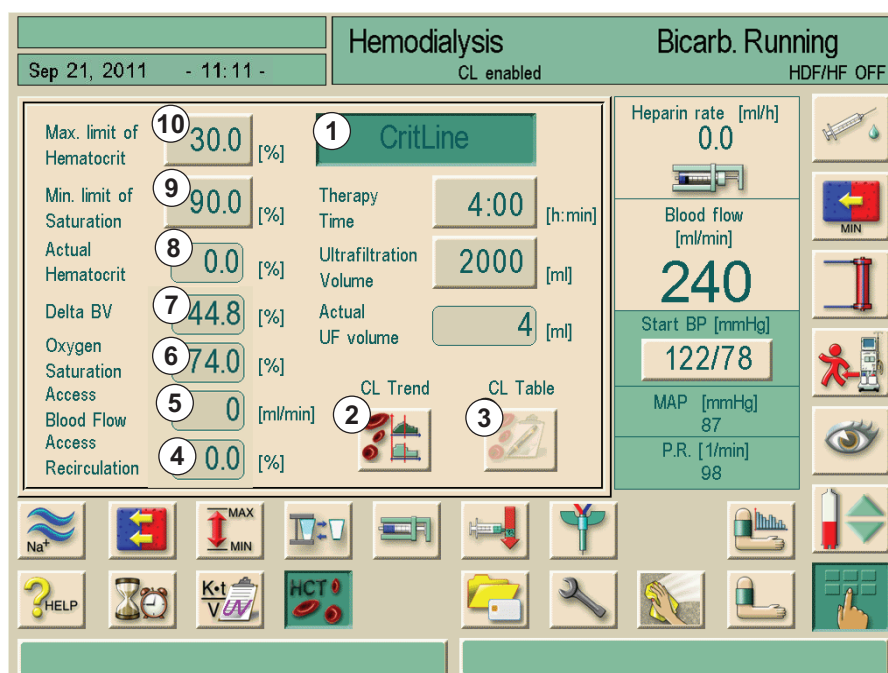

Fig. 11-33 Crit-Line Main Window
When button 2 in Fig. 11-33 Crit-Line Main Window (216) touched, the trends of hematocrit, blood volume change in percent, recirculation, access blood flow and oxygen saturation can be displayed. A trend group consisting of three trends is displayed on the screen. The trend groups can be edited by touching the trend button (5) (see chapter 12.10 Edit Parameter of Trend Groups (248)).
1. Touch button 3 in Fig. 11-33 Crit-Line Main Window (216).